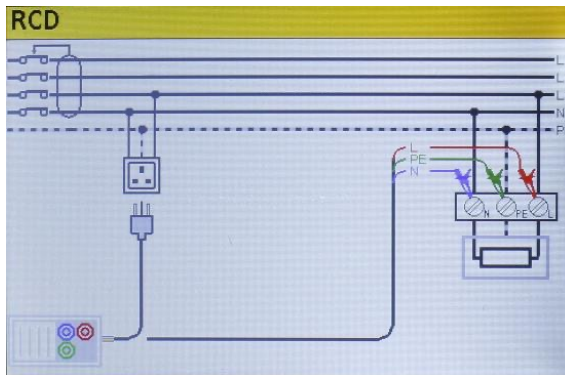

Figure 5.13: Connection of plug test cable or universal test cable
- Step 3** Connect the test leads to the instrument and follow the connection diagram shown in figure 5.13 to perform contact voltage measurement.